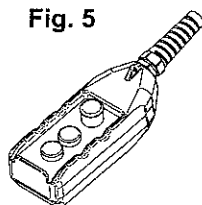

Fig. 5
- Connect the push-button panel to its connector. The winch is equipped with a 3-button panel (Fig. 5):